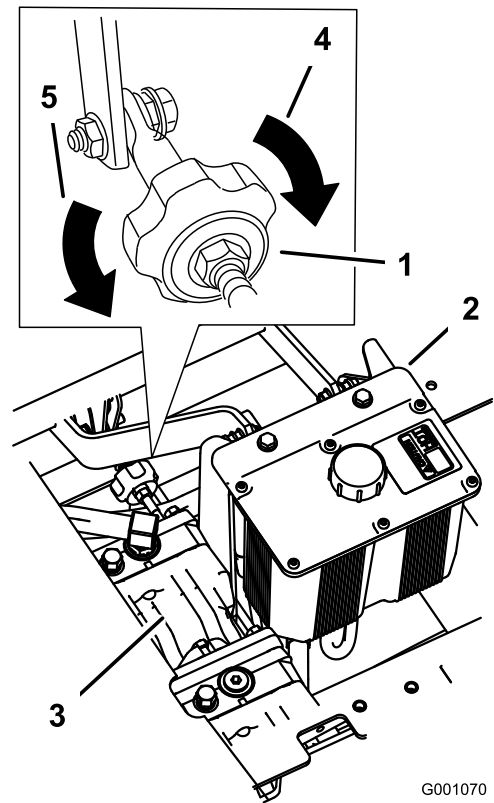

Figure 64
4. To make the machine go right, turn the knob toward the right of the machine; refer to Figure 64.
5. To make the machine go left, turn the knob toward the left of the machine; refer to Figure 64.